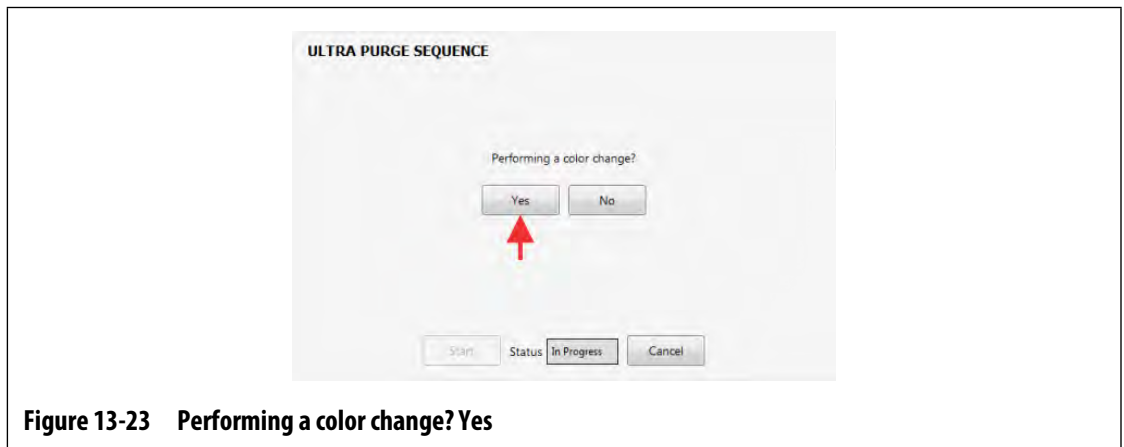

Figure 13-23 Performing a color change? Yes
6. When asked if you are performing a color change, touch the **Yes** button (refer to Figure 13-23).